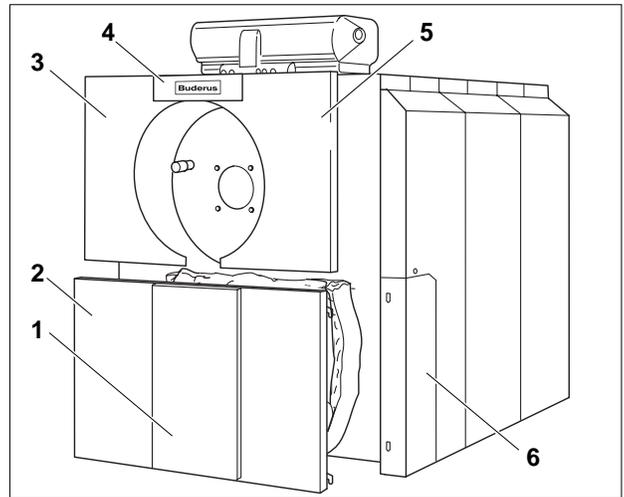

Fig. 28 Remove the front wall
- Remove the upper (Fig. 28, **Item. 4**) and lower cover part (Fig. 28, **Item. 1**).
- Remove the upper front wall (left and right) (Fig. 28, **Item. 3** und 5).
- Remove the lower front wall (Fig. 28, **Item. 2**).
- Remove the left and right side wall sections (Fig. 28, **Item. 6**).